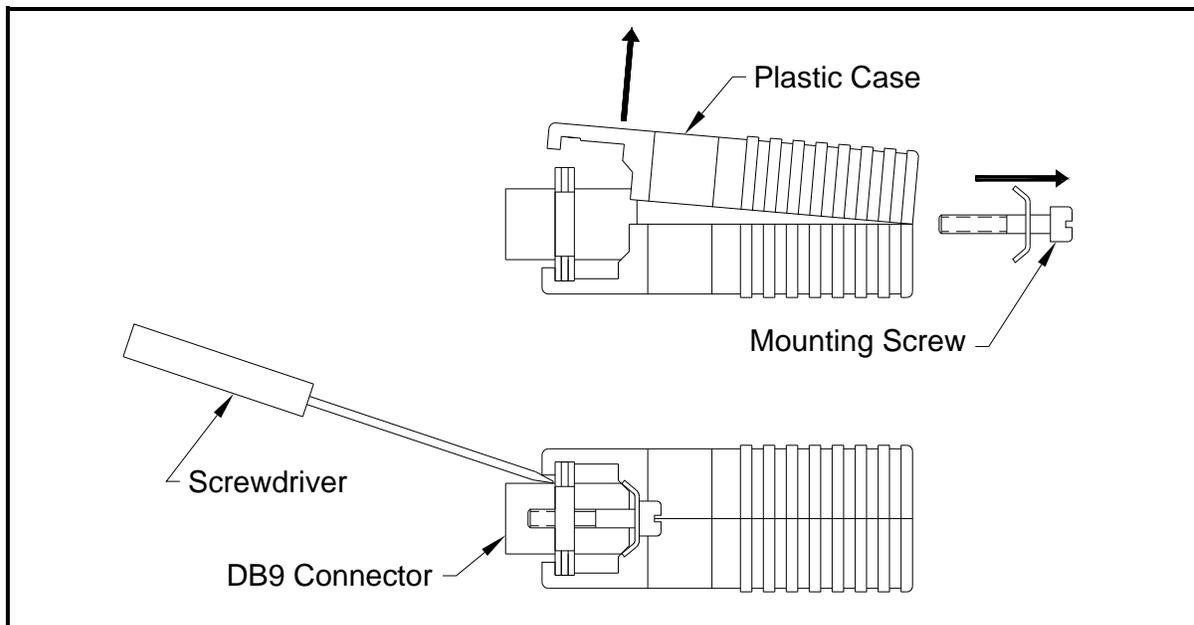

Figure 9: Opening the Converter Case
5. Use a small screwdriver to pry open the *plastic case* of the serial interface converter, as shown in Figure 9 on page 87.